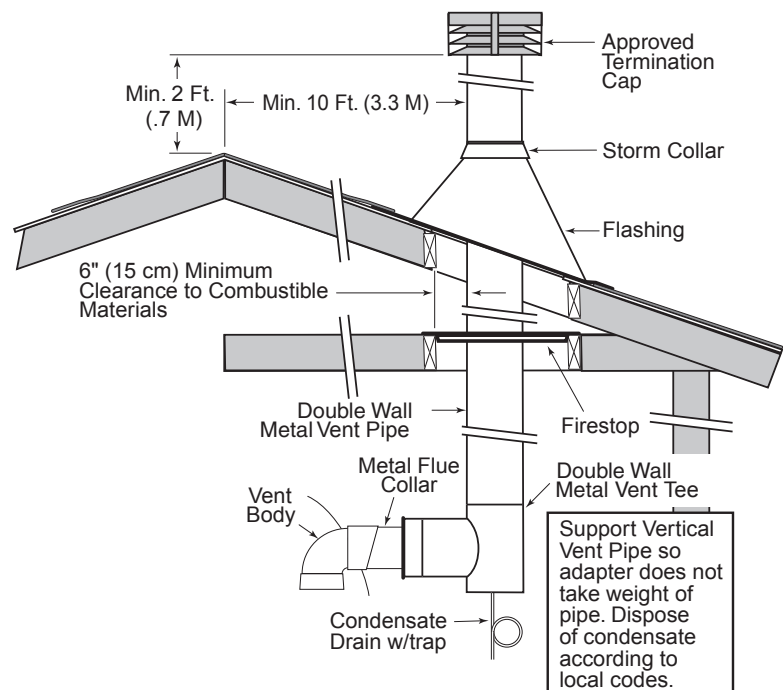

Figure 14. – Typical Metal Vent Pipe Installation (Vertical Venting)
6. **Vent Termination – Vertical** (See Figures 14, 15 and 16), for height of vent termination above the roof. Use an “Approved” vent terminal specified by local and national codes and your manufacturer’s instructions. A roof termination must be vertical.